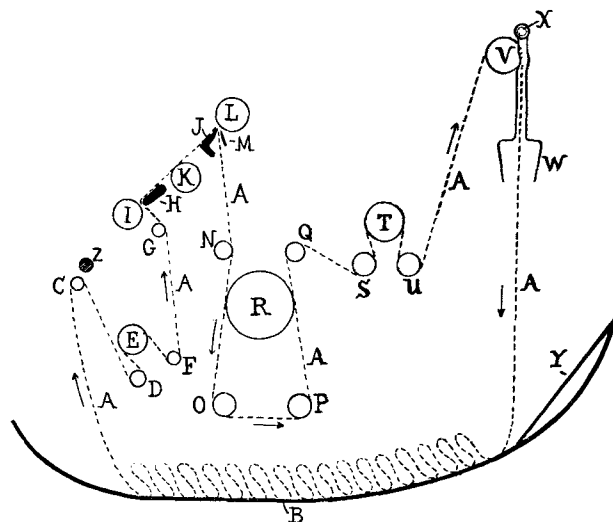
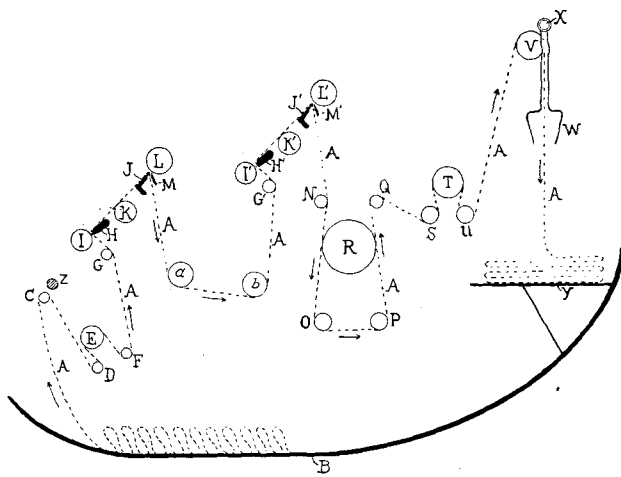

FIG. 1.
FIG. 2.
**The construction of a shear.** Before going into any further details, it will be well to give a description of the construction and operation of the shear, a feature best explained in connection with the accompanying illustration, Fig. 1, being a diagram showing in outlines, the construction and working parts of what is known as a "single shear" (taking the Parks & Woolson Shear as a model). In said illustration, the dotted line *A* represents the run of the cloth, to be sheared, through the machine. The same, as received from the back-burling, is then placed in an open folded condition into the scray *B* of the machine. Next, the front end is passed up over guide rod *C*, then down around another guide rod *D*, to a front draft break roll *E*, which, with another guide rod *F*, acts to put tension on the cloth as it is passed to the shearing mechanisms. From the rod *F*, the cloth passes upwardly and over a guide rod *G*, then around a specially shaped brush rest *H*, which puts the cloth in position to have its nap, on the face, raised to a perpendicular position by means of raising brush *I*, and in which condition the cloth travels to the cloth rest *J* of the shearing mechanism. The brush rest *H* is made adjustable, so that the cloth can be given more or less raising (brushing effect) as may be required. In passing from the brush rest *H* to the cloth rest *J*, the back of the cloth is operated upon by a flock brush *K*, provided for the cleaning off of any loose threads, flocks, etc., from that side of the cloth, so that they will
brush *R* is conveniently placed, so as to act on the face of the fabric twice, and which brush thus does the work of two single contact brushes. From the guide roll *Q*, the cloth passes under a guide roll *S*, then up over a draft roll *T* and down again under another guide roll *U*, and from there it passes up over a folder roll *V* to the folder *W*, which is given a vibratory motion, using the point *X* as a pivot for this motion. From the folder, the cloth drops back into the scray *B*, until, on the final run through the machine, it is folded, as shown in the illustration Fig. 2 on the table *Y*, which, when not needed, is turned out of the way. *Z* indicates the shipper rod, extending across the front of the machine, being connected at one end to the shipper lever so that the machine can be stopped or started by the operator from either side.
In order to illustrate to the reader the principle of construction and the working of a double shear, diagram Fig. 2 is given, showing the working parts of a double shear (P. & W. Model) in outlines. Letters of reference in this illustration are selected to correspond to those as have been used in connection with diagram Fig. 1, the second shear-set being indicated by prime (') signs. Two additional rollers *a* and *b* are needed to transfer the fabric from the first cutting arrangement (*J, L* and *M*) to the second cutting arrangement (*J', L'* and *M'*), and of which roller *a* is a guide roll and roller *b* is a draft roll.